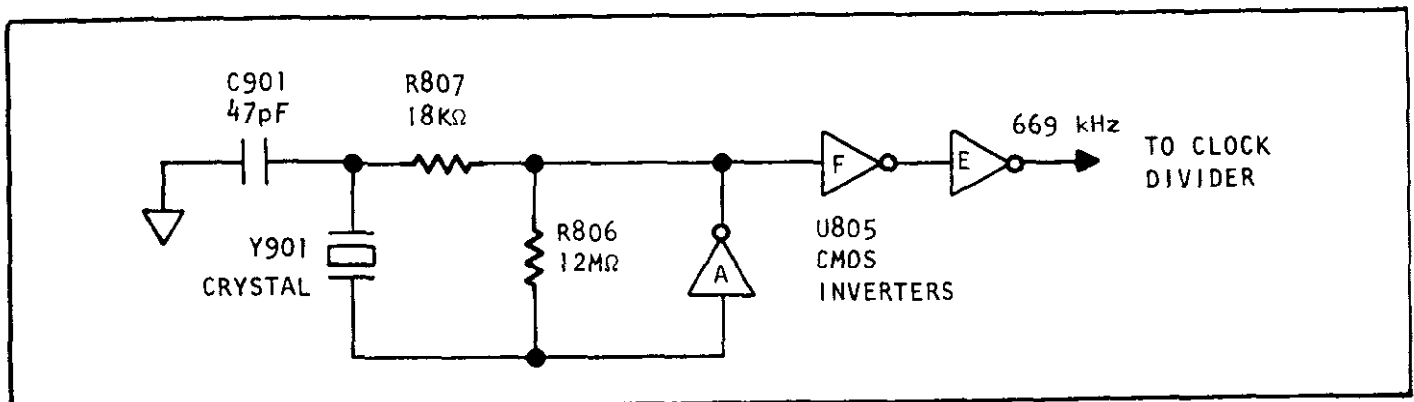

FIGURE 5-15. Simplified Schematic of 669 kHz Oscillator.
5) In the reference current circuit, the base of Q_R is referenced to ground and the emitter resistor R_2 connects to a negative voltage ($-V$). The current through R_F (I) is approximately equal to $I_R + I_C$ (neglecting base current of Q_R). Since I is constant, I_R will vary inversely with respect to a change of I_C .
f. Oscillator. The oscillator (shown in Figure 5-15) is crystal controlled and operates at approximately 669 kHz. It is divided down 2:1 to produce the A/D converter clock. The oscillator runs at twice the clock rate for the following two reasons: